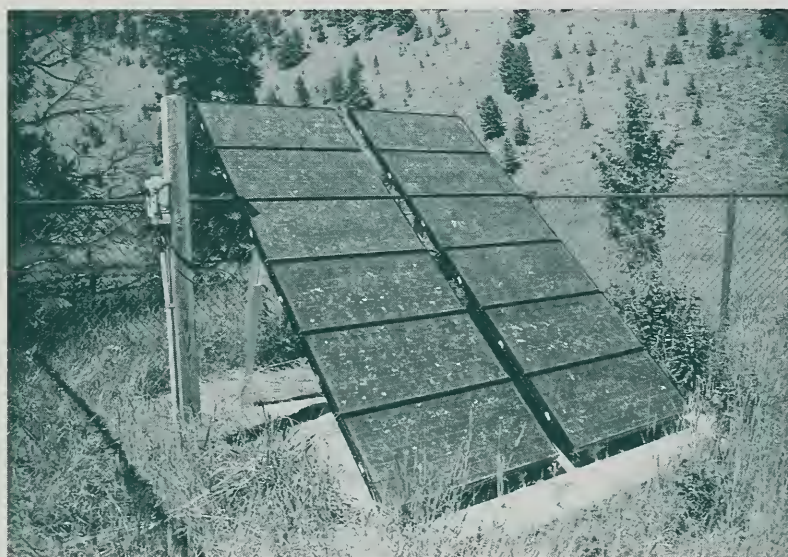

Figure 7—Tilt angle is important for solar panels. This panel is tilted about 37°, probably too steep for its location in southwestern Montana.
- If the PV system is used only in the summer: subtract 10 to 15° from the latitude to get the proper tilt angle. The tilt is closer to horizontal because of high sun angles in the summer (Figure 7).